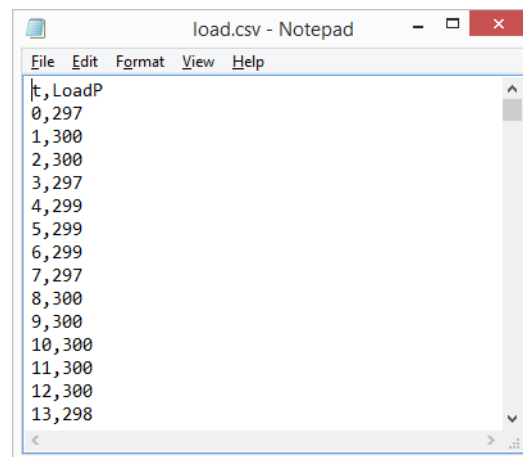

Figure 6 Input file with seconds
2. If the input uses seconds values, then 0 seconds will be converted into the start time. (See Figure 6 Input file with seconds)